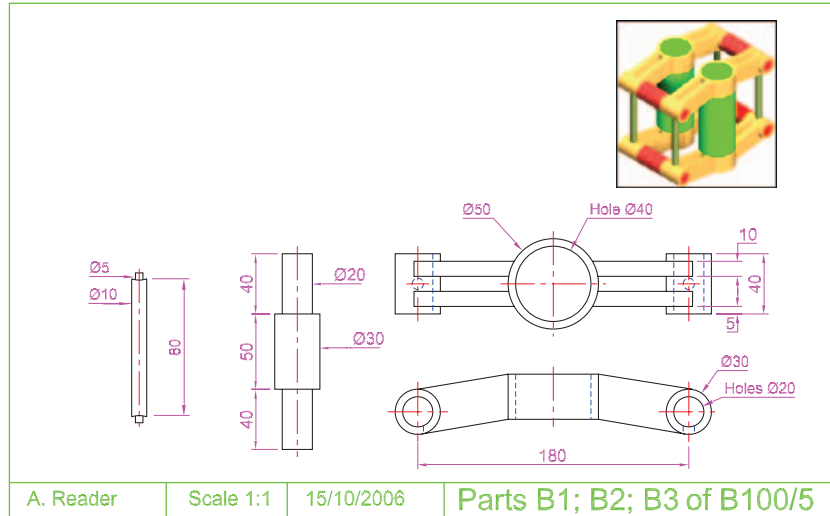

Fig. 19.5 Example – Raster image in a drawing
Click the **OK** button of the dialog and a series of prompts appears at the command line requesting position and scale of the image. Enter appropriate responses to these prompts and the image appears in position in the orthographic drawing (Fig. 19.5).
2. Place the image in position in the drawing area. In Fig. 19.5 the orthographic projections have been placed within a margin and a title block has been added.
1. Open the orthographic drawing with its raster image (Fig. 19.5).